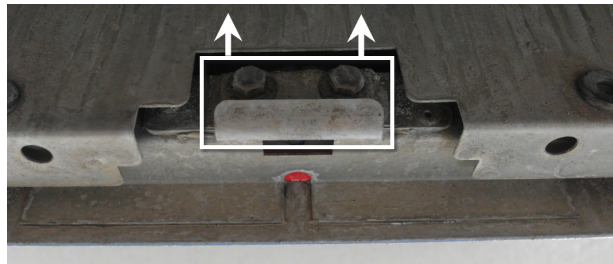

FIGURE 59 : KEEPER
23. If the hatch has moved down, it may be necessary to move the keeper down slightly (FIGURE 59). To do so, loosen the mounting bolts (2 bolts) and move the keeper in the direction shown with arrows. Firmly tighten the keeper bolts once adjustment is done).